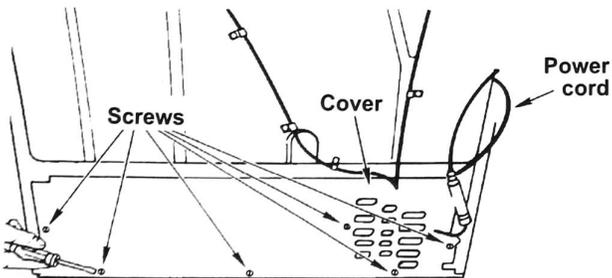

Figure 2
4. Remove the compartment cover from the rear of the refrigerator. See Figure 2.